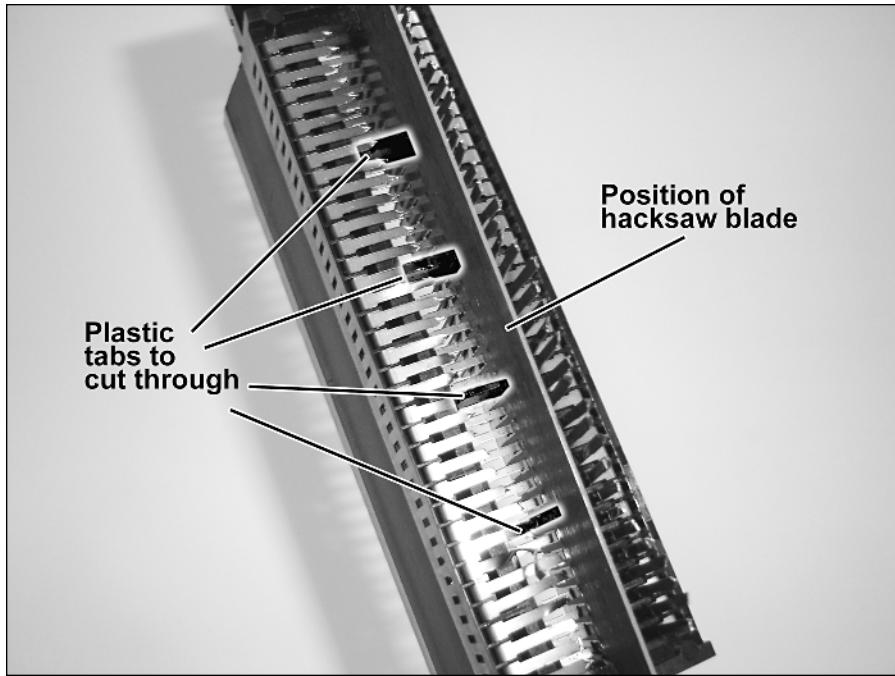

FIGURE 8-9: Yet more plastic to saw through.
7. You should now have discovered four black plastic pieces under this outer row of pins. Hack through them with your saw, as shown in Figure 8-9.